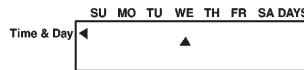

fig.12
- 2) Move it using the buttons **↓↑** up to the current day (fig. 12)